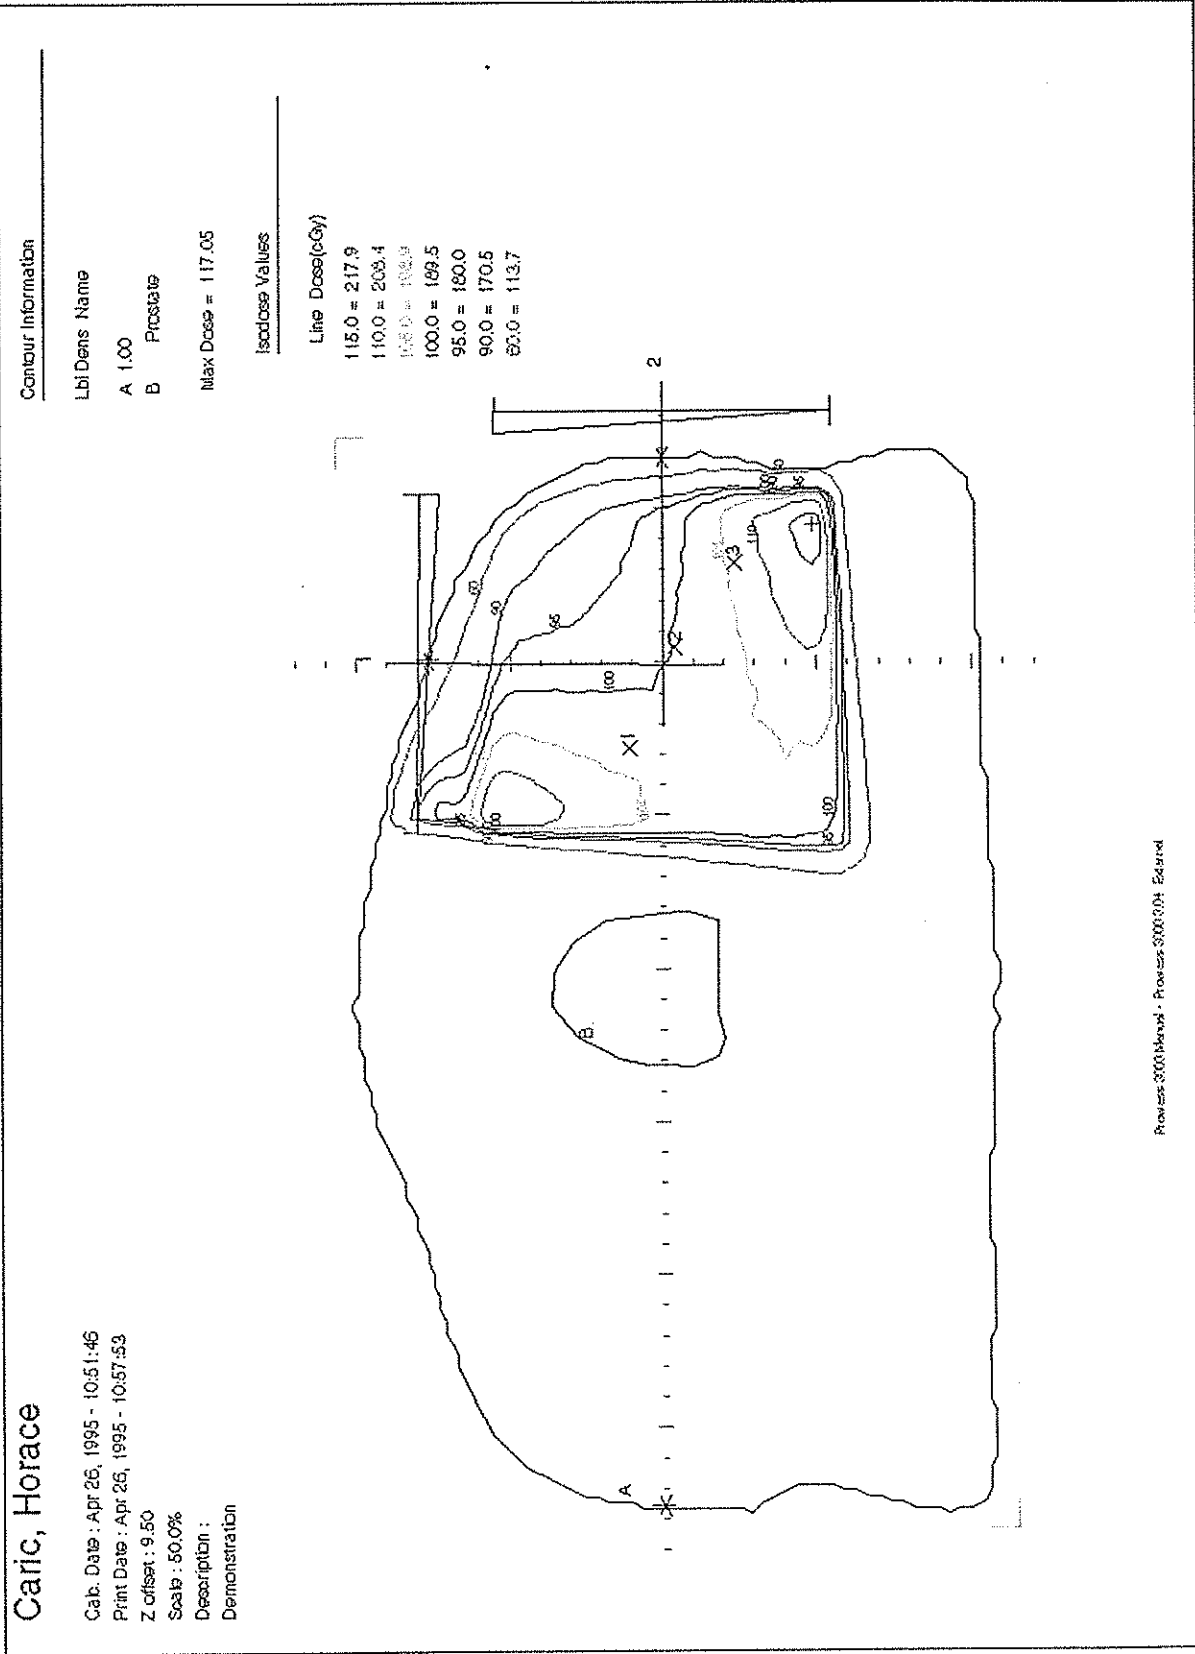

Figure 12.9 - Bilateral Arcs: Isodose Plot
- The results of this calculation are shown in Figures 12.9, 12.10, and 12.11.